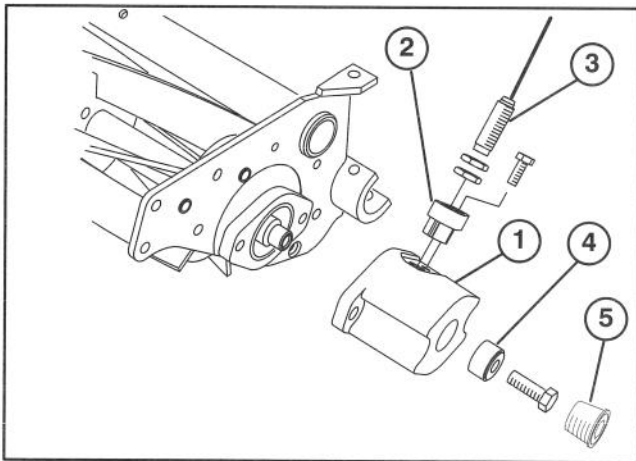

Figure 17
6. Install a counterweight to the left front and left rear cutting units, with nuts previously removed (Fig. 17). Mount counterweight with reel speed sensor up.
7. Through hole in end of counterweight, carefully position and mount a magnet (supplied in traction unit loose parts) to the end of the reel shaft with a 3/8 – 16 x 1" lg. capscrew (supplied in traction unit loose parts). Magnet to be installed with counterbore side toward the end of reel shaft and the smooth side outward (Fig. 17). Torque capscrew to a maximum of 5 ft–lb.